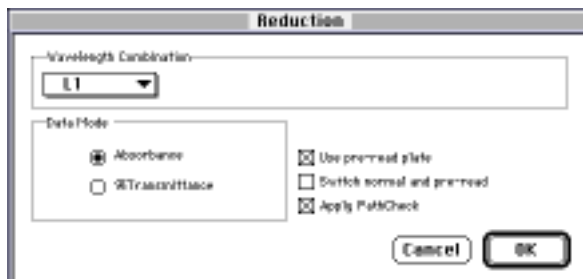

Figure 2: The Reduction dialog box set up to apply PathCheck
- Step 4** Set up the Reduction dialog box as shown in Figure 2. Set the wavelength combination to L1 and the data mode to Absorbance. Make sure that 'Use pre-read plate' and 'Apply Pathcheck' are selected.